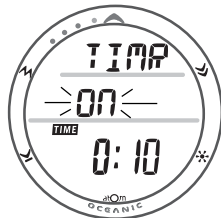

Fig. 20 - CD TIMER
- Pressing and releasing the S button momentarily (< 2 seconds) will toggle from OFF to ON and Start the Timer (Fig. 20).